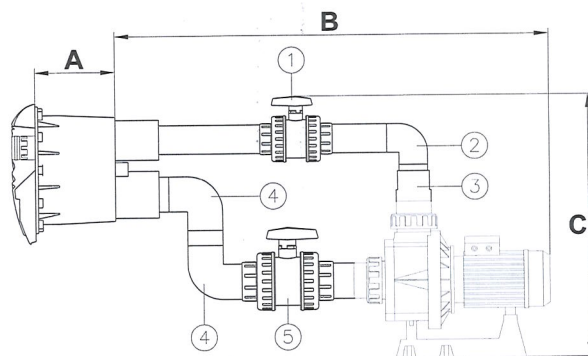

Fig. 7
- Glue a Ø 75 mm. pipe (*) to the discharge mouth of the niche (see fig. 7).
- Glue the Ø 75mm. valve (no.1, fig. 7) to the Ø 75mm. pipe (*).
- Glue a Ø 75mm. pipe (*) to the Ø 75mm valve (no.1, fig. 7).
- Glue the Ø 75mm. elbow (no.2, fig. 7) to the Ø 75mm. pipe (*).
- Glue a Ø 75mm. pipe (*) to the elbow (no.2, fig.7).
- Glue a 90/75/63 mm. conical reducer (no.3, fig. 7) to the Ø 75mm (no.2, fig. 7) and the Ø 90mm. connector on the pump.
- Using a Ø 90mm. pipe (*), glue a Ø 90 mm. elbow (no.4, fig. 7) on to the suction mouth on the niche (see fig. 7).
- Using a Ø 90mm. pipe (*) joint the other Ø 90mm. elbow (no.4, fig. 7) to the elbow already glued (see fig. 7).
- Glue the Ø 90mm. valve (no.5, fig. 7) to the elbow (no.4, fig. 7) using a Ø 90 mm. pipe (*) to join them.
- Glue a Ø 90 mm. pipe (*) to the valve (no.5, fig.7) and to the Ø 90mm.connector on the pump.